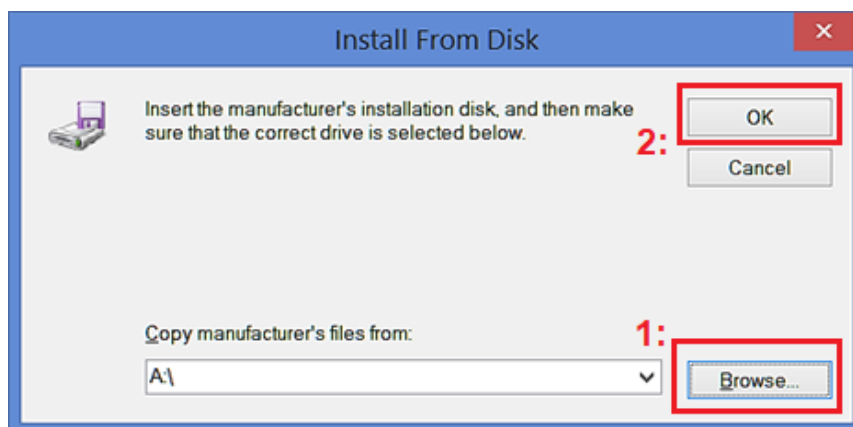
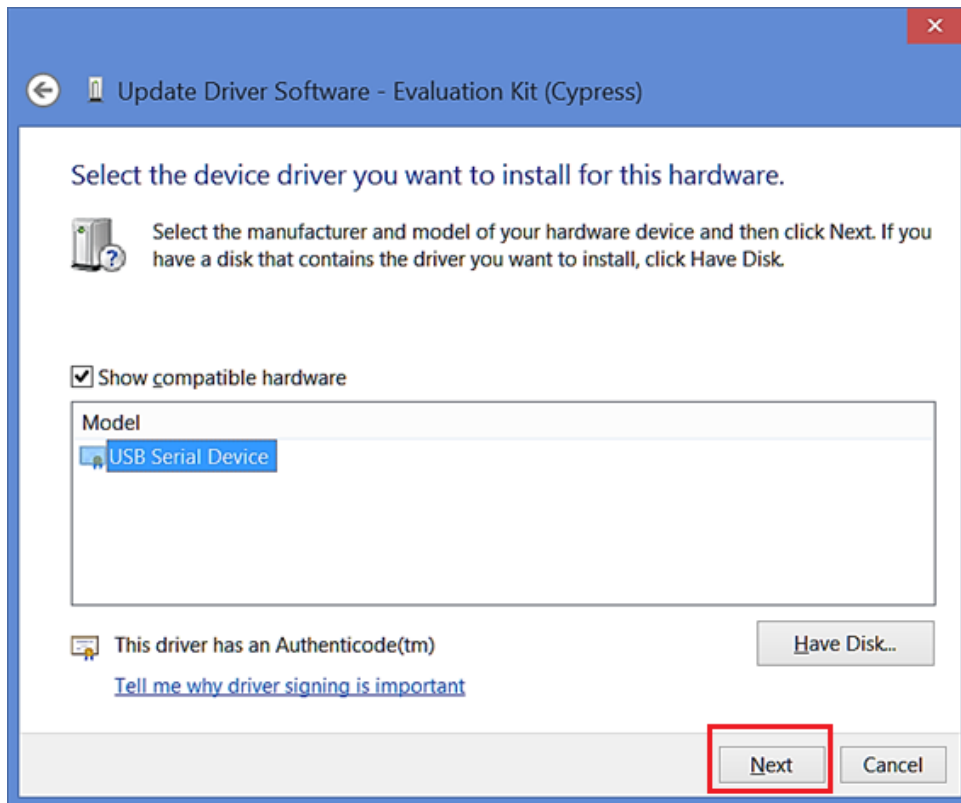

Figure 19. Update Driver Software - 5
Figure 20. Update Driver Software – 6
8. Then choose "Browse" (Figure 19) and find the downloaded inf file and then select "OK". You will be returned to an older pop-up window where you should select "Next" (Figure 20)